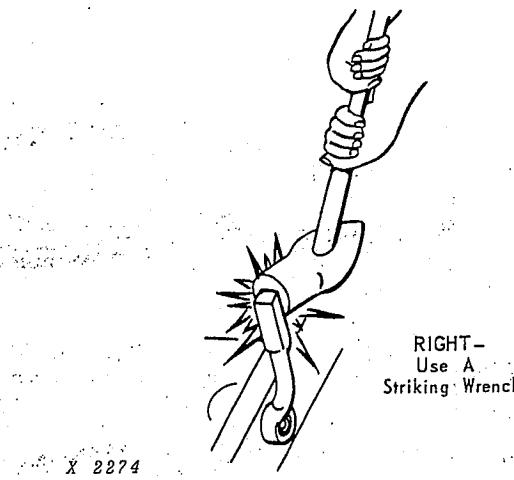

Fig. 20 — Never Hammer On A Standard Wrench
*Never hammer on a standard wrench.* Use a heavy-duty striking wrench designed for use with a hammer (Fig. 20).